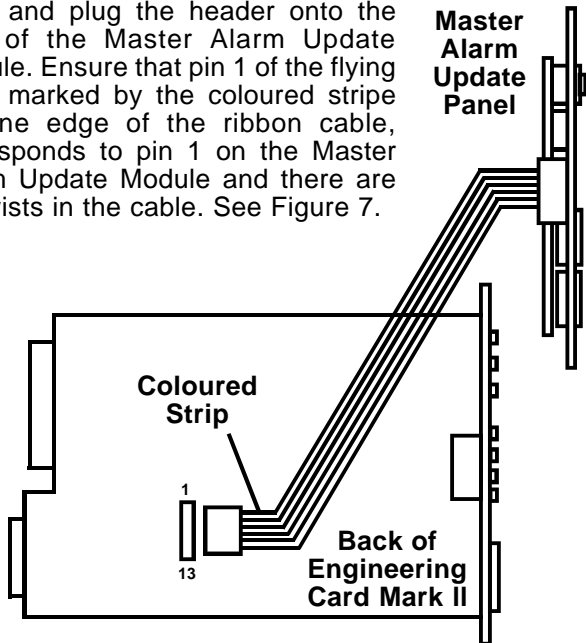

Figure 7 Master Alarm Update Panel Connections
- (1) Isolate the System 57 Rack from all power sources.
- (2) Unscrew the two front panel screws that retain the Engineering Card and, using the extraction tool supplied with the system, pull the Engineering Card from the rack.
- (3) Insert the flying header socket, that is attached to the Master Alarm Update Panel, through the slot located on the back of the Engineering Card and plug the header onto the pins of the Master Alarm Update Module. Ensure that pin 1 of the flying lead, marked by the coloured stripe on one edge of the ribbon cable, corresponds to pin 1 on the Master Alarm Update Module and there are no twists in the cable. See Figure 7.